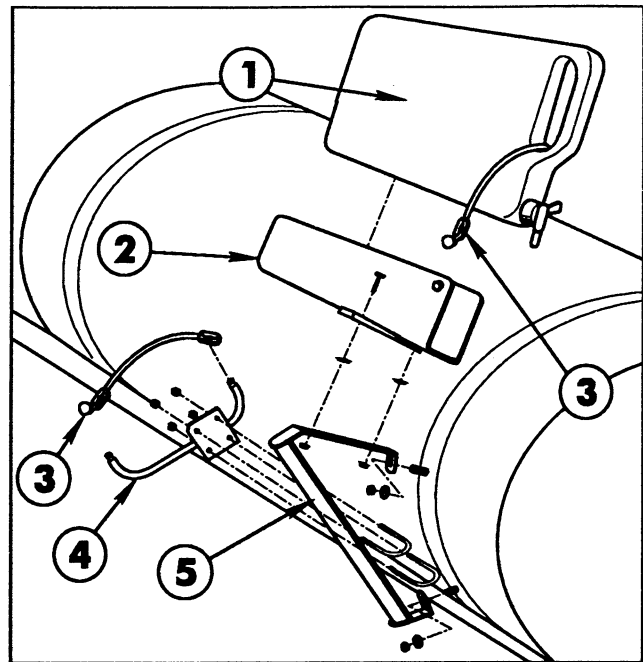

FIG. 9
1. Mount right Hold-In Brace assembly to the two (2) 5/16" carriage bolts in the front Tank Band using two (2) 5/16" flat washers and hex nuts. Tighten securely. See FIG. 9.
2. Attach right Boom Hold-In assembly to Hold-In Brace assembly using two (2) 1/4" U-bolts and four (4) 1/4" lock nuts. Attach Rubber Hold-Down to Hold-In Brace assembly. Repeat steps 1 and 2 for left side.
3. Mount Wash Tank Bracket (open end forward) to right-hand Hold-In Brace assembly using two (2) 5/16" x 1" hex hd. cap screws, flat washers, and hex nuts. Place Clean Water Wash Tank into Wash Tank Bracket and secure with Rubber Hold-Down, as shown in FIG. 9.